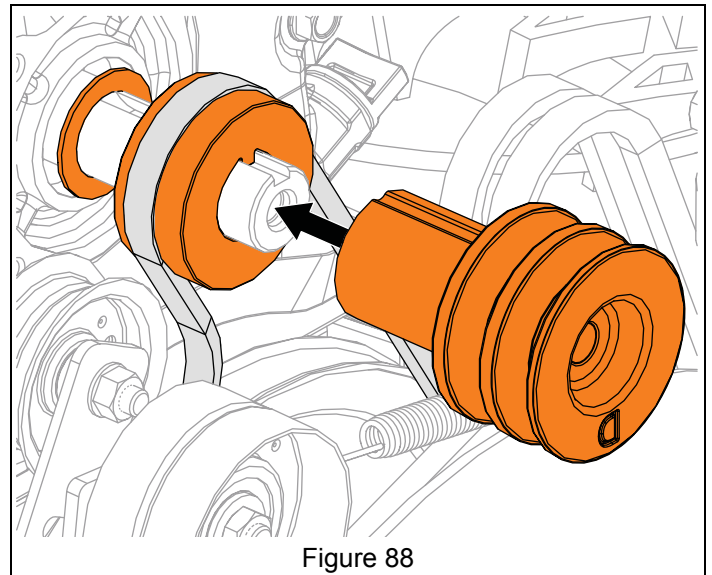

Figure 88
8. Remove lower traction clutch cable from swing gate. See Figure 88.